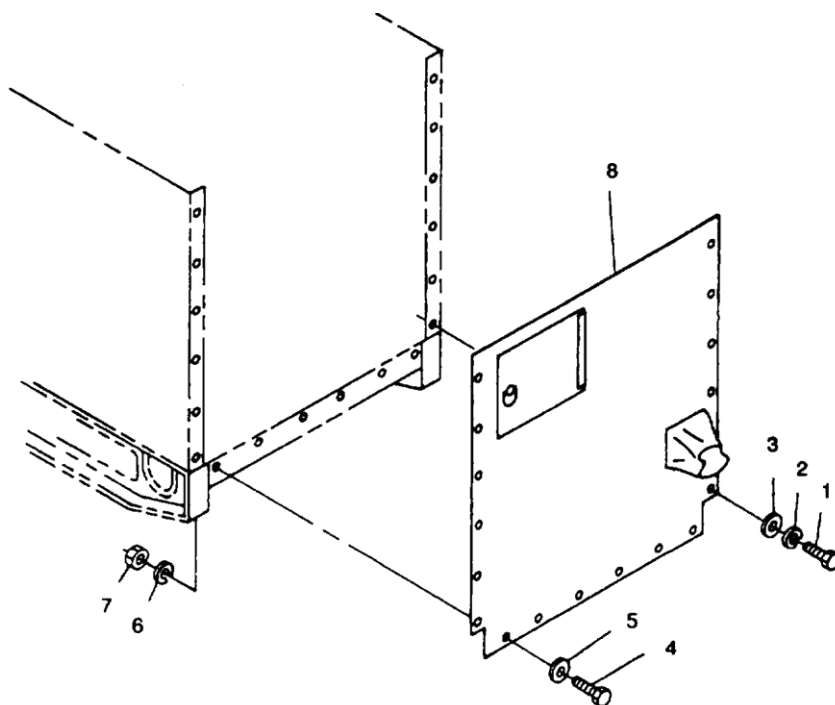
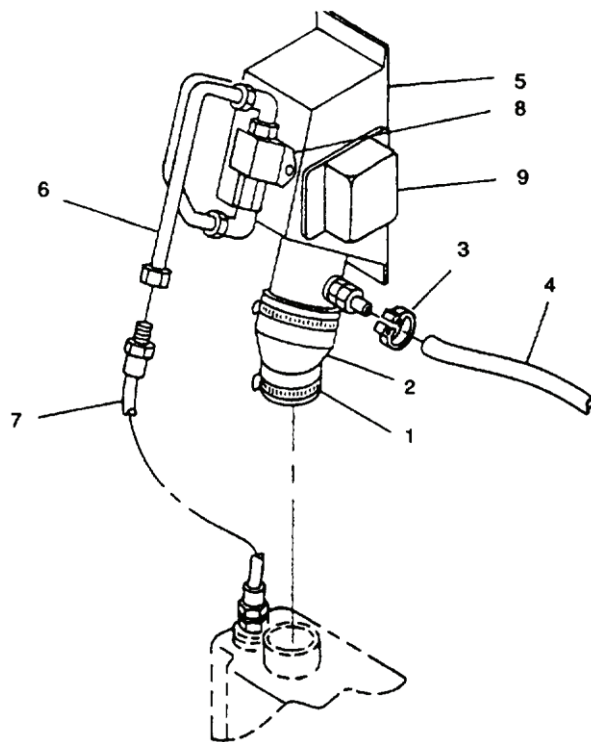
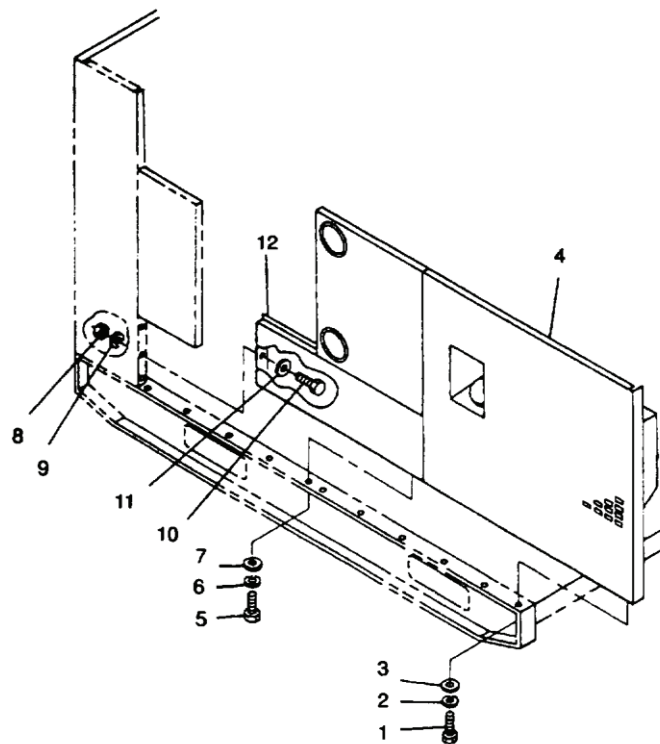
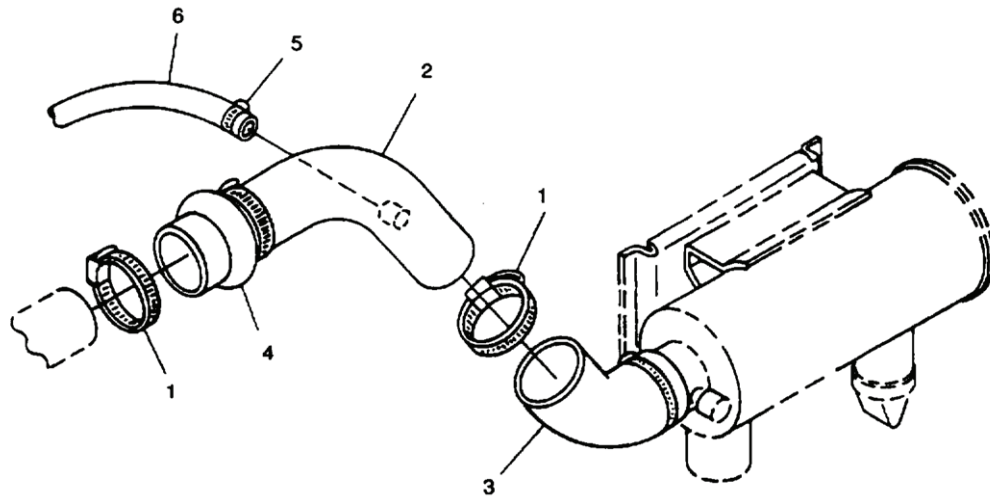

Figure 6. Rear Housing Panel.
Figure 7. Fuel Filler Hoses and Panel Assembly.
Figure 8. Left Side Housing Panels.
Figure 9. Air Cleaner Hose and Tube Assembly.
21. Loosen clamp (14) at thermostat housing and disconnect hose (15).
22. Loosen clamp (16) at water pump and disconnect hose (17).
23. Loosen clamp (18) and disconnect hose (19) from radiator drain valve (20).
24. Remove nuts (21) and lockwashers (22) securing radiator assembly (23). With the aid of an assistant, remove radiator assembly (23). Discard lockwashers (22).
25. Remove bolts (Figure 6, Items 1 and 4), washers (3 and 5), lockwashers (2 and 6), nuts (7), and rear housing panel (8) from generator set. Discard lockwashers (2 and 6).
26. Loosen clamp (Figure 7, Item 1) securing hose (2) to fuel tank. Cap openings.
27. Loosen clamp (3) and disconnect hose (4) from fuel filler panel assembly (5). Cap openings.
28. Disconnect fuel line (6) from hose (7). Cap openings.
29. Tag and disconnect auxiliary fuel pump (8) and fuel float switch module (9) electrical connectors.
30. Remove bolts (Figure 8, Item 1), lockwashers (2), and washers (3) securing left side panel (4) to skid base. Discard lockwashers (2).
31. Remove nuts (8), lockwashers (6 and 9), washers (7 and 11), and bolts (5 and 10) securing lower left side panel (12) to front housing and skid base. With aid of an assistant, remove left rear side panel (4) and lower left side panel (12) as an assembly. Discard lockwashers (6 and 9).
32. Loosen clamps (Figure 9, Item 1) securing tube (2) to hose (3) and hump hose (4) to turbocharger.
26. Connect tube (Figure 9, Item 2) to hose (3), connect hump hose (4) to turbocharger, and tighten clamps (1).
27. Connect hose (6) to tube (2) and tighten clamp (5).
28. With aid of an assistant, position left rear side housing panel (Figure 8, Item 4) and lower left side panel (12) on generator set.
29. Secure left rear side panel (4) to skid base with bolts (1), new lockwashers (2), and washers (3).
30. Secure lower left side panel (12) to front housing and skid base with bolts (5 and 10), washers (7 and 11), new lockwashers (6 and 9), and nuts (8).
31. Connect auxiliary fuel pump (Figure 7, Item 8) and fuel float switch module (9) electrical connectors and remove tags.
32. Remove caps and connect fuel hose (7) to fuel line (6).
33. Remove caps and connect hose (4) to fuel filler panel assembly (5) and tighten clamp (3).
34. Remove caps and connect hose (2) to fuel tank and tighten clamps (1).
35. Install rear housing panel (Figure 6, Item 8) on generator set with bolts (1 and 4), washers (3 and 5), new lockwashers (2 and 6), and nuts (7).